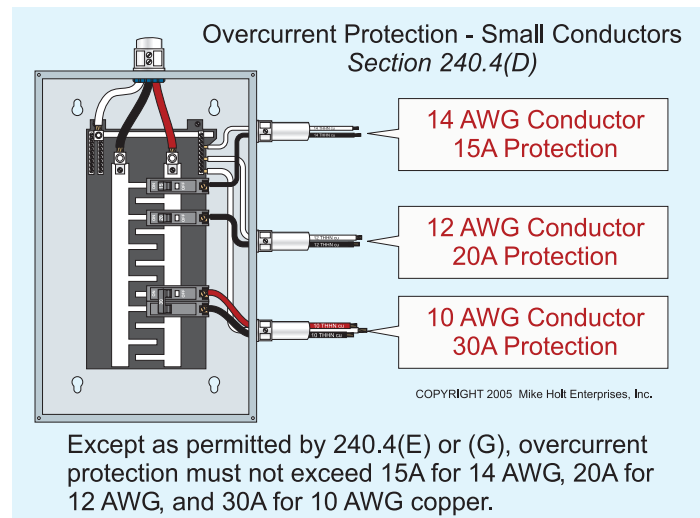

Figure 6-7
**Small Conductors.** Unless specifically permitted in 240.4(E) or 240.4(G), overcurrent protection must not exceed 15A for 14 AWG, 20A for 12 AWG, and 30A for 10 AWG copper conductors; or 15A for 12 AWG, and 25A for 10 AWG aluminum and copper-clad aluminum conductors after ampacity correction. **Figure 6-7**